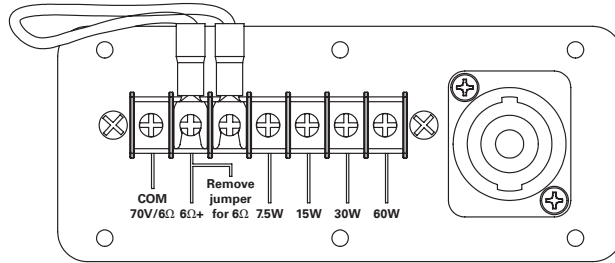

Fig. 5
6. Establish electrical connection. All models include a built-in, high efficiency 60 Watt 70.7V transformer with 7.5, 15, 30, and 60 Watt taps as shown in Fig. 5.